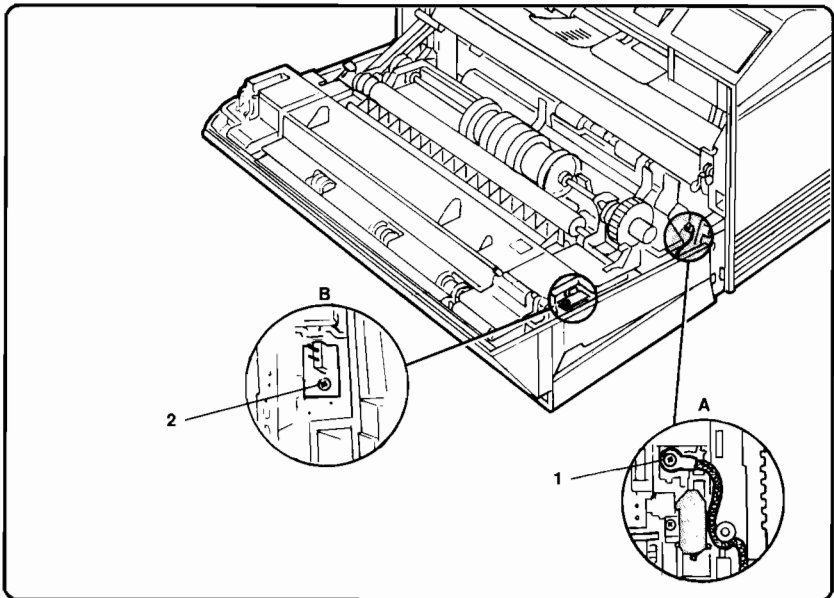

Figure 6-73. MP Pick-Up Feed Solenoid/Cable Assembly Removal (SL1)
6. Remove the screw (1) with star washer, securing the ground cable (see Figure 6-73, detail A, callout 1).
7. Remove the screw (1) securing the right Fuser connector (J502) to the MP Door (see Figure 6-73, detail B, callout 2).